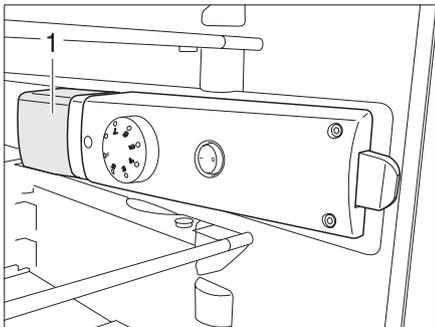

Fig. 112 Refrigerator light
- ▶ Grip under the light covering (Fig. 112,1) from behind and raise the light covering approximately 3 mm.